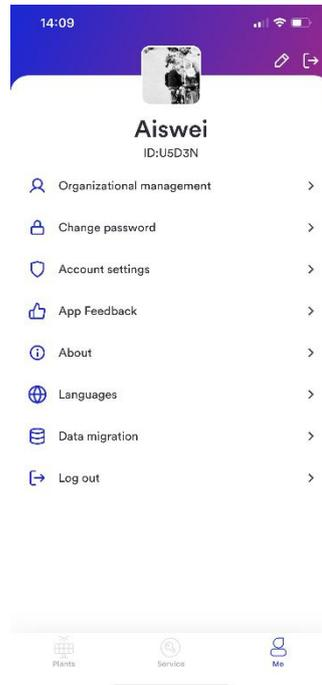

Figure 4.2. "Me" page
- If you have registered a corporate user account through the "Solplanet" application and want to copy the power station information of the AiSWEI application. You can transfer power station information through the "Data Migration" entry on the "Me" page (as shown in Figure 4.2), and the operation steps are the same as the "Data Migration" on the login page above."